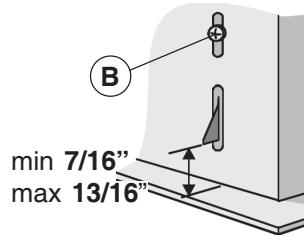

FIG. 4
3. Adjust the position of the clasping side spring by means of the proper "B" screw according to the thickness of the board panel to which it is going to be anchored (Fig. 4).